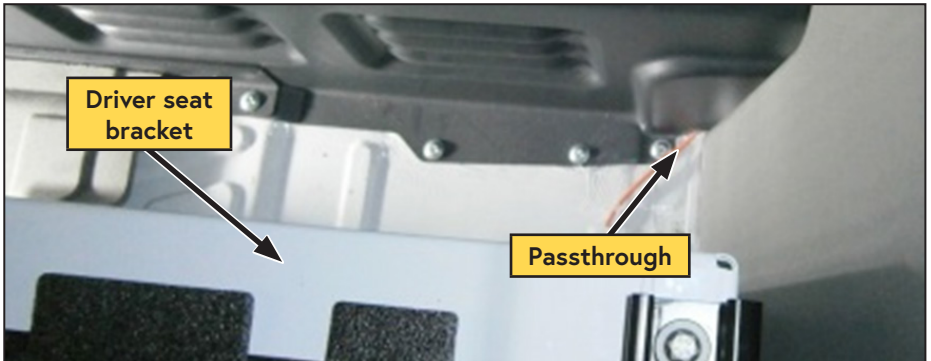

Figure 63 — Bulkhead passthrough
- Route the WHASP fan and pressure switch harnesses from the Control Module through the passthrough in the bulkhead to the cargo bay (Figure 63).